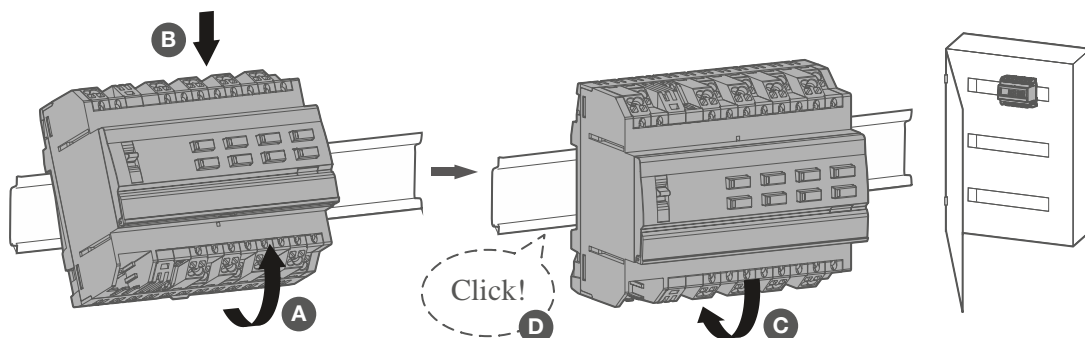

Fig. 4: Installing the device on the DIN rail
- 1 Install the device on a TH 35 7.5-15 DIN rail according to IEC 60715:2017 / EN 60715:2017 (Bild 4).